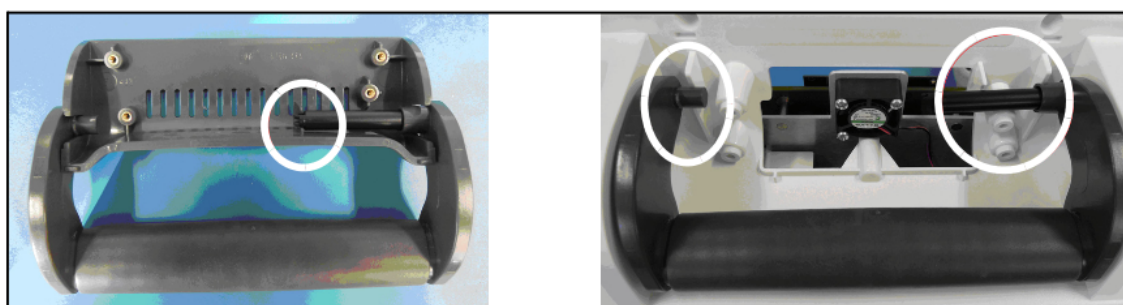

Figure 4-22 Handle Assembly
- 1 Assemble the rear handle so that the dampening rod is inside the tabs on the rear handle cover as shown in Figure 4-22 on page 4-26.